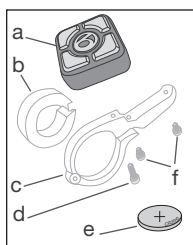

FIGURE 1.2.1
1. If it is not already installed, attach the remote to the bracket with the included screws (Figure 1.2.1).